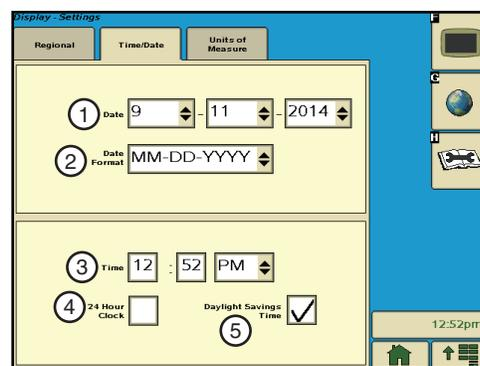

Figure 37-2 1. Date 2. Date Format 3. Time 4. 24-Hour Clock 5. DST
4. Push the **Time/Date** tab to set the Current Date and Time. See Figure 37-2.